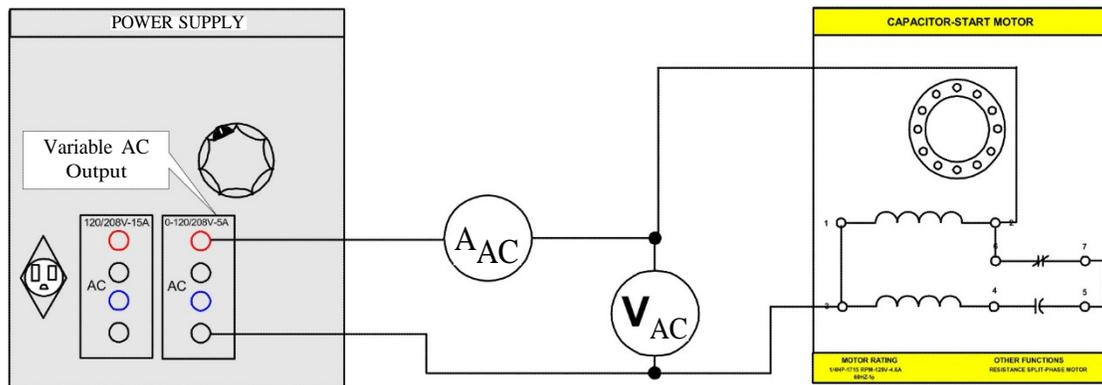

FIGURE 8.15
Step 5: Using your Data Acquisition Interface (DAI) modules in the EMS workstation, and Electrodynamicometer, connect the circuit shown in Figure 8.15.